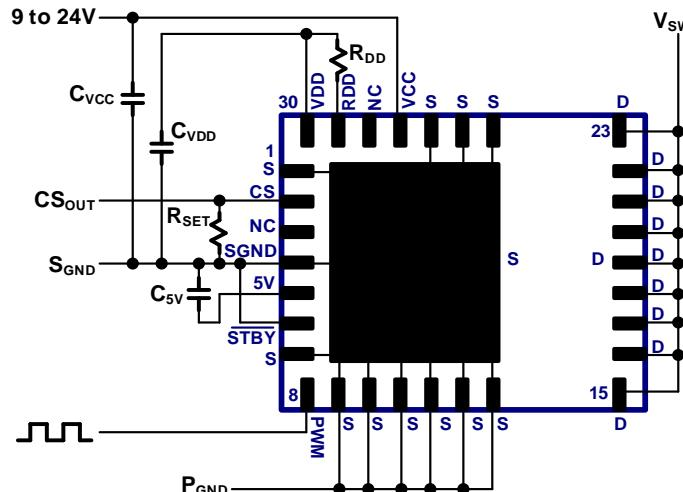

Fig. 20. IC connection diagram
The typical connection diagram for this GaN Power IC is shown in Fig. 20. The IC pins include drain of the GaN power FET (D), source of the GaN power FET (S), IC supply (Vcc), gate drive supply (V_{DD}), gate drive turn-on control SET input (R_{DD}), PWM input (PWM), separate signal GND (S_{GND}), current sensing output (CS), auto-standby mode input (STBY), and 5V supply (5V). The Source pad and Source pins (S) should all be connected to the system P_{GND}. S_{GND} pin 4 must be connected directly to Source PAD underneath IC. The Source pins (S) should each be connected externally to the Source pad directly underneath the IC. The Drain Pins (D) should all be shorted together by copper in the layout (see Section 9). The external components around the IC include V_{CC} filter capacitor (C_{VCC}) connected between V_{CC} pin and S_{GND} pin, V_{DD} filter capacitor (C_{VDD}) connected between V_{DD} pin and S_{GND} pin, turn-on dV/dt set resistor (R_{DD}) connected in between V_{DD} pin and R_{DD} pin, a current sense amplitude set resistor (R_{SET}) connected between CS pin and S_{GND}, and auto-standby mode pin (STBY) connected to S_{GND}. An external capacitor (C_{5V}, 0.01uF max) is required between pin 5V and S_{GND}. This 5V pin is for internal purposes only and must not be used for biasing external circuitry.